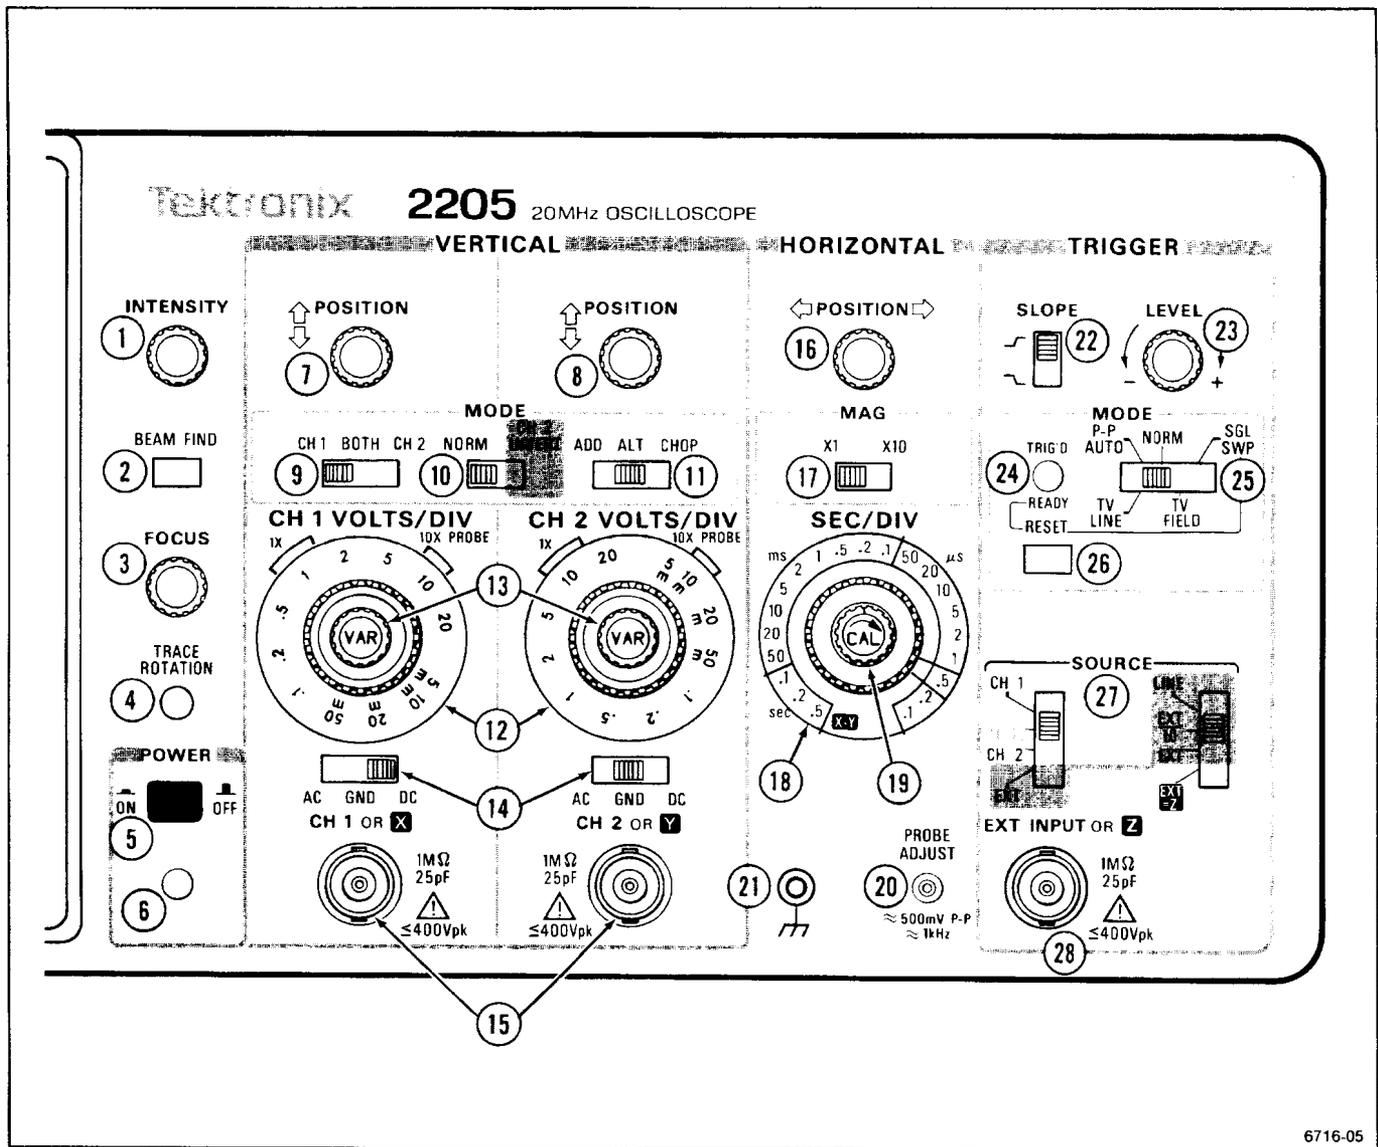

Figure 2-2. Front panel controls, connectors, and indicators.
Refer to Figure 2-2 for the location of items 1 through 28.